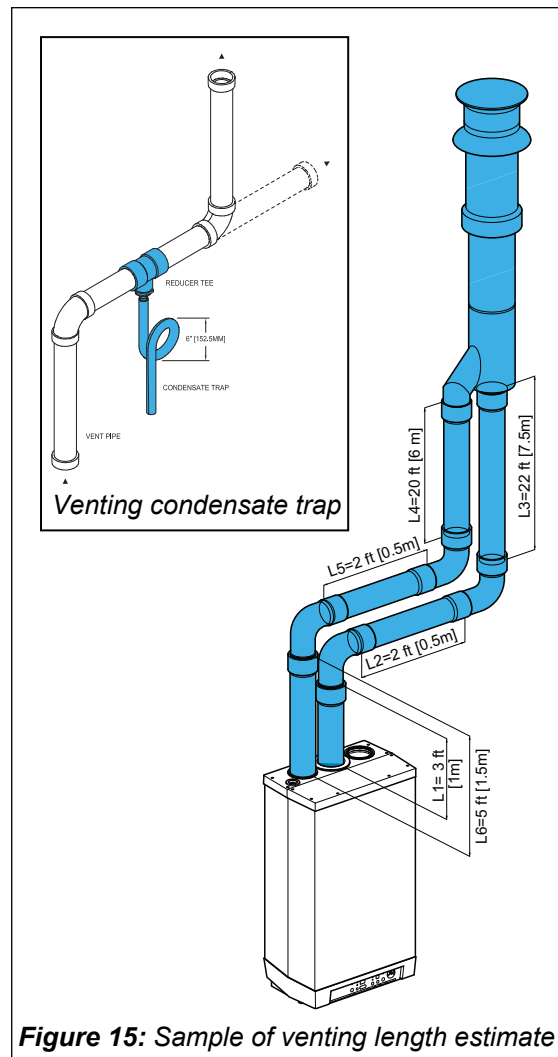

Figure 15: Sample of venting length estimate
1.7.5.2 CONCENTRIC TO APPLIANCE CONNECTION (Refer to Figure 15)
Table 4 Example Calculation (Refer to Figure 15)
2. When the straight flue pipe is over 9.5 feet (3 m), a venting condensate drain and trap should be installed. The venting condensate drain should be installed as close to the appliance as possible and must be equipped with a drain trap. The drain trap can be formed by attaching 1/2" (13 mm) diameter flexible tubing to the drain assembly, making a loop of approximately 6" diameter and securing it with a cord or tie wrap where the tube crosses over itself. Do not squash the tube or over-tighten it, see Figure 15, or use other type of boiler condensate trap. The loop or condensate trap must then be filled with water to form a liquid-filled trap. This trap allows condensate to drain while preventing exhaust gases from escaping. The condensate should be discharged as per section 1.3.7.